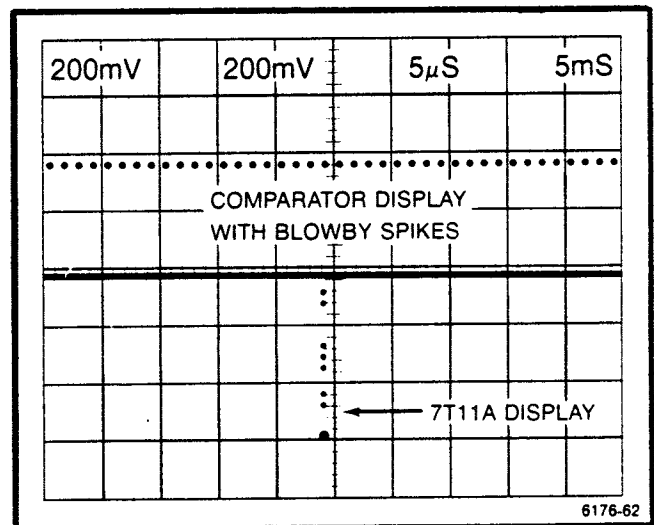

Figure 5-7. Typical display of Memory Gate blowby.
b. **EXAMINE**—the oscilloscope display for no blowby spikes to be visible on the Differential Comparator trace (see Figure 5-7 for a display with blowby spikes).